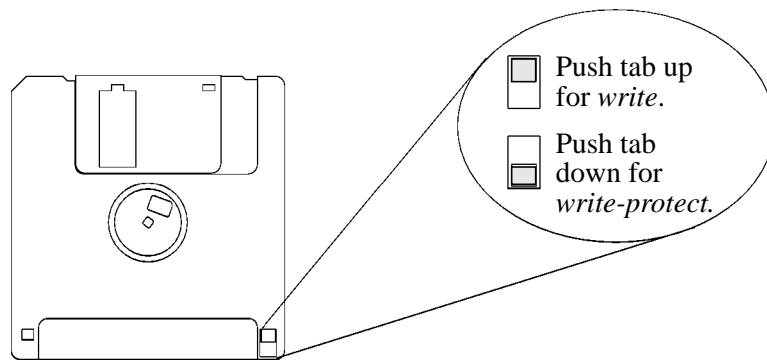

Figure 22
You can only store or change information on a diskette when the write-protect tab is in the *write* position. So, before trying to write to the diskette, make sure that the write-protect tab is in the *write* position, as shown in Figure 22.
To protect files on a diskette from being overwritten, set the write-protect tab to the *write-protect* position, as shown in Figure 22.
- 2 Make sure that the write-protect tab on the floppy diskette is in the *write* position, as shown in Figure 22.